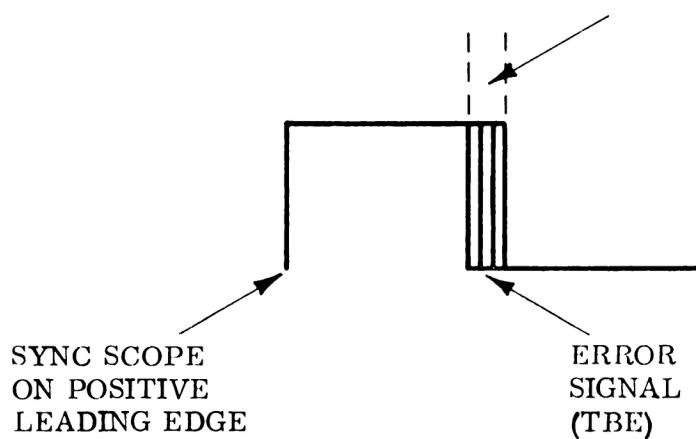

FIGURE 4. TYPICAL TIME BASE ERROR (TBE)
8. Set the oscilloscope sweep speed to $2 \mu\text{sec}/\text{cm}$. Synchronize on the leading edge of the positive going signal (+ sync). Display a single waveform on the screen similar to Figure 4. The trailing edge contains an error signal which represents servo action and, in turn, time base error.